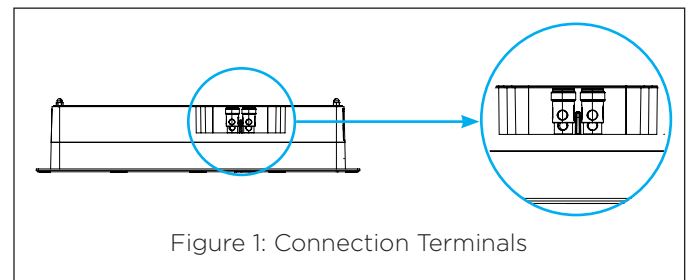

Figure 1: Connection Terminals
6. The speaker's connector posts are spring-loaded. Push the top of each connector post down to open the connector and insert the exposed wires into the holes in the posts (see Figure 1).